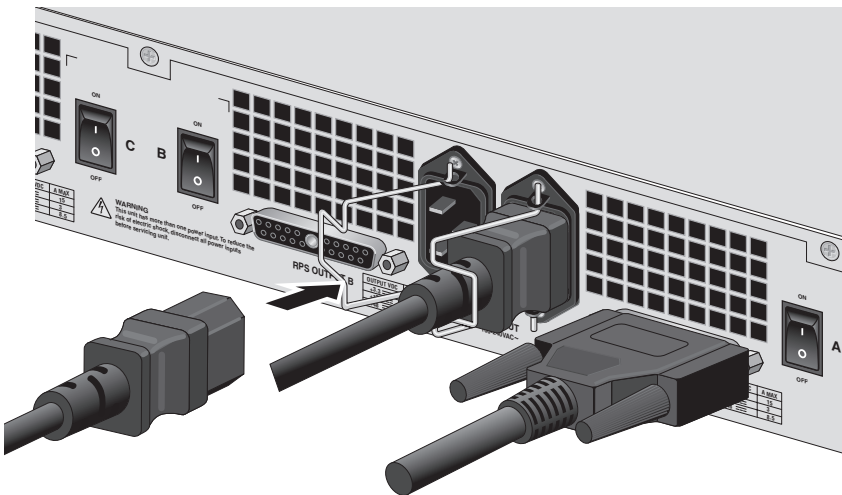

Figure 18. Connecting the AC Power Cord to the AT-RPS3104 System
7. Connect an AC power cord to the appropriate AC connector on the back panel of the AT-RPS3104 system (see Figure 18). (The AC power cords ship with the AT-RPS3104 system, not with the AT-PWR3101 modules.)